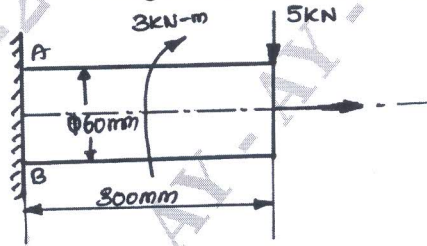

Fig Q1(b)
- b. A circular rod of 60mm diameter is subjected to bending load and Torsional load as show in Fig Q1(b). Determine the nature and magnitude of stress at critical points.